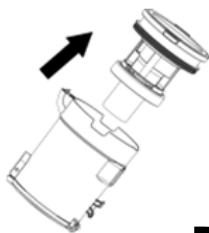
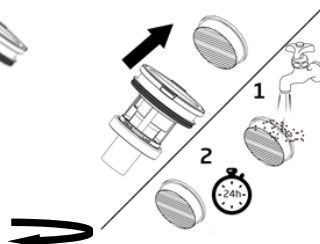
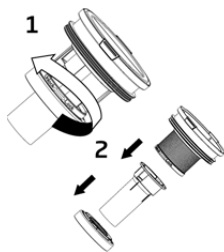
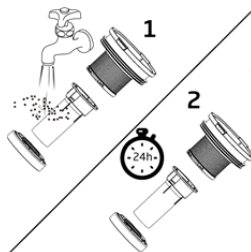

Fig. 14
Fig. 15
Fig. 16
Fig. 17
3. Lift out the cyclone from dust container(Fig 14), lift out pre-motor filter and shake off dust frequently. Every three months rinse filter and dry thoroughly(Fig 15), turn the filter assembly head anti-clockwise to disassemble the inner filter (Fig 16), wash with running water, and make sure it is dry before next use(Fig 17).